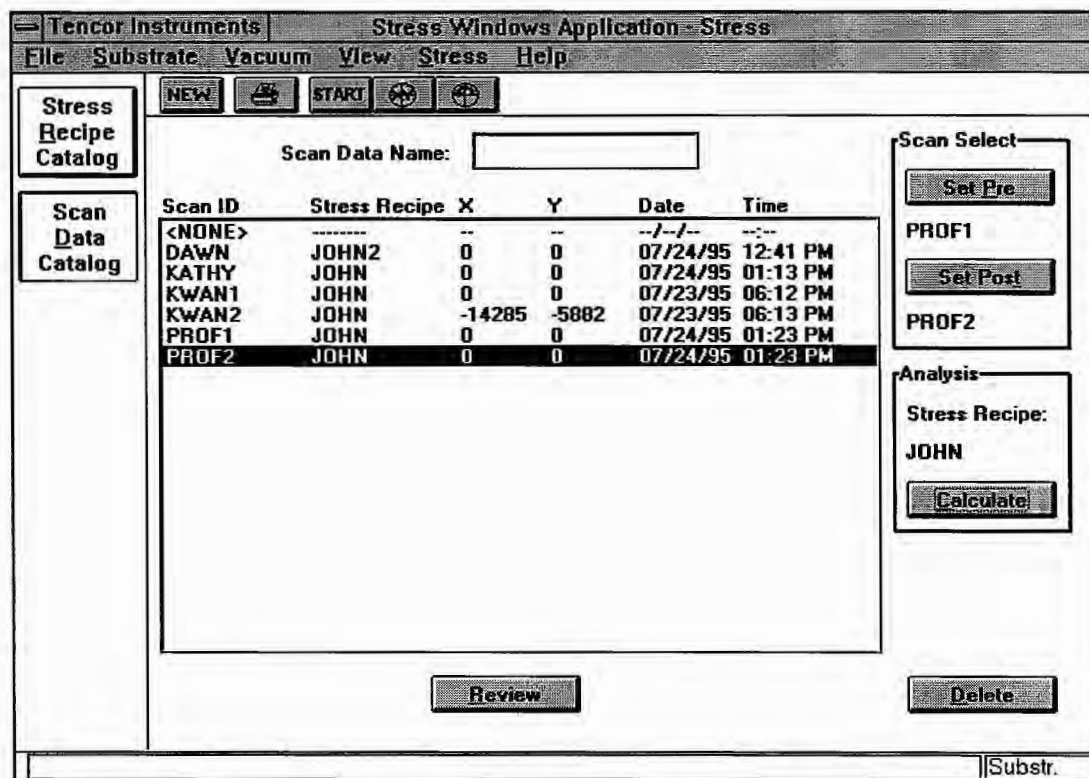

Figure 11-13 Stress Windows Applications
The Stress application provides you with two ways to access the Scan Results window (Figure 11-13) to view a particular scan without performing analysis on the scan.
1. To assign scans as prescan and postscan, use the Stress Windows Application screen (Figure 11-13).
The Stress Results Display (Figure 11-13) lets you display the Prestress, Poststress, and Difference deflections. Each of these traces has a corresponding check box labeled Display Pre-Stress, Display Post-Stress, and Display Difference.